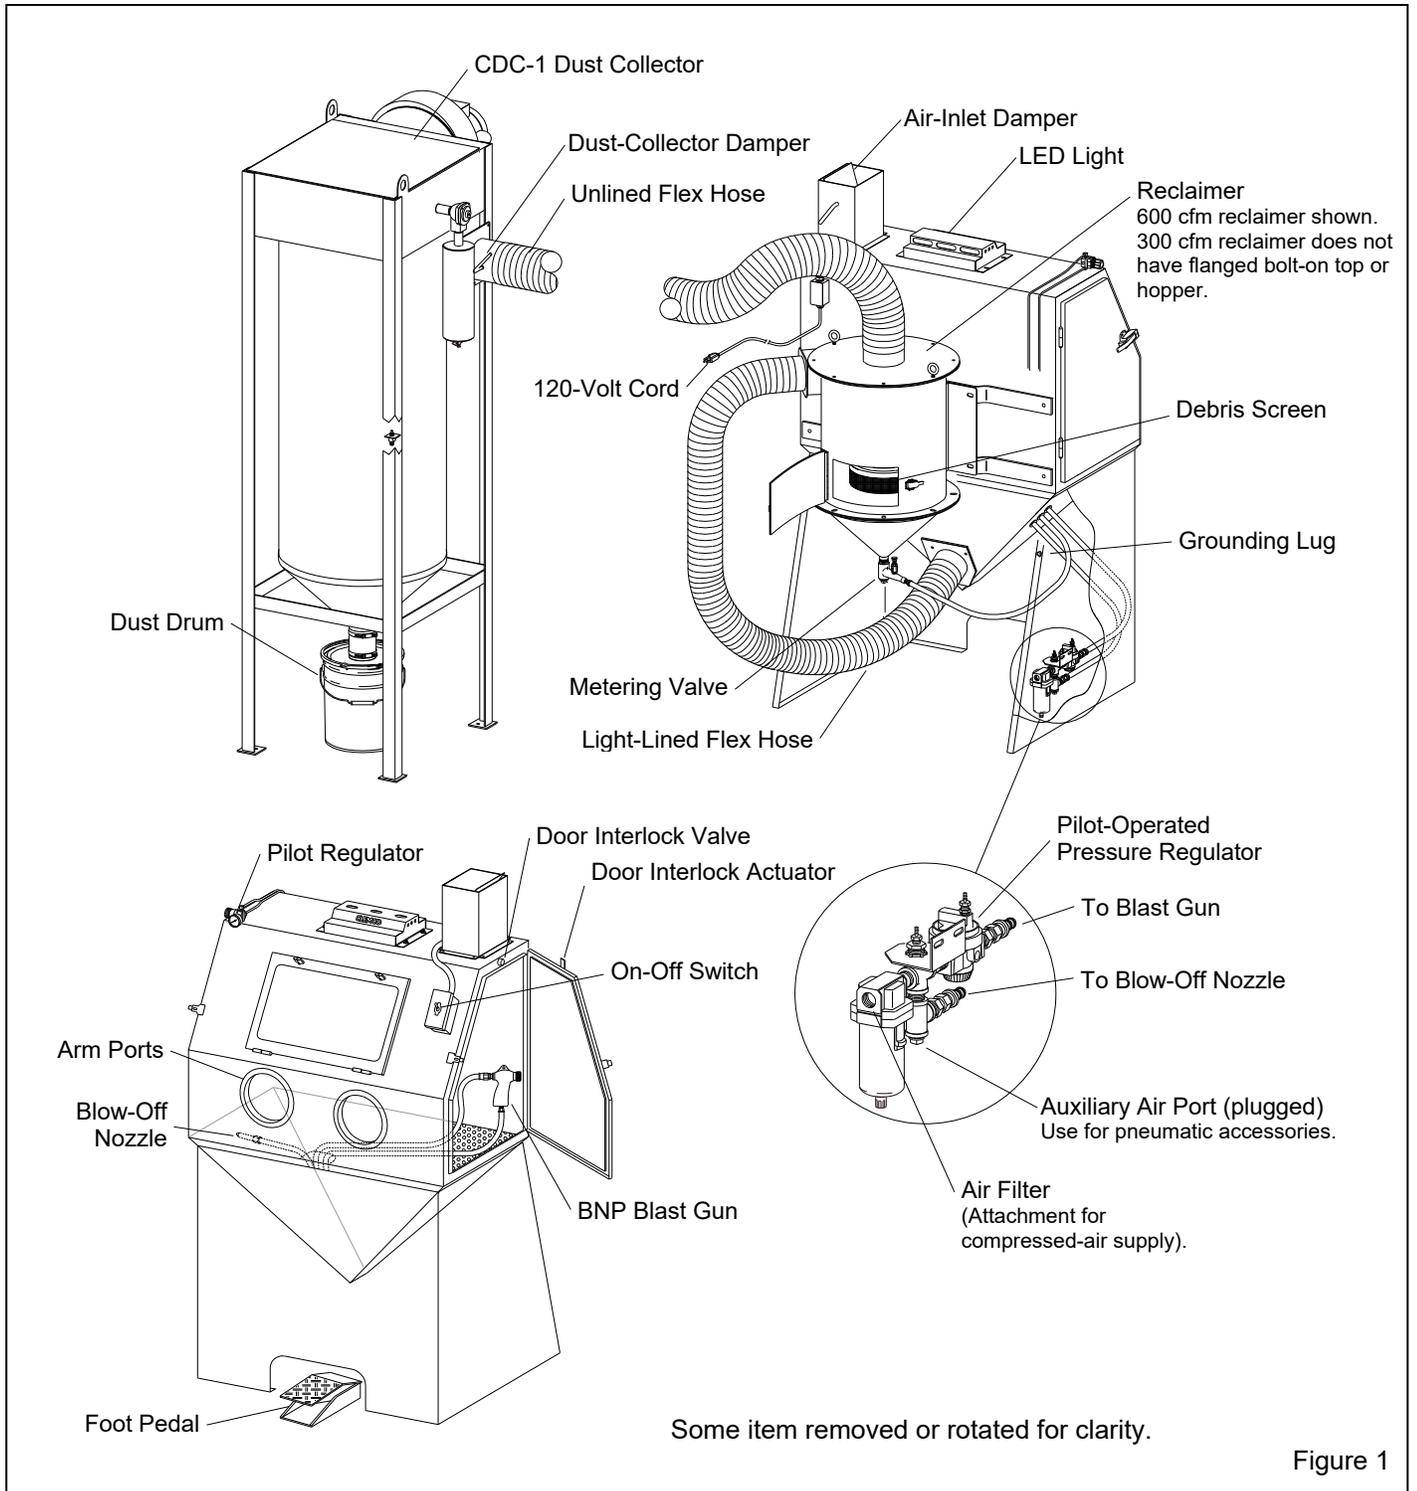

Figure 1
**1.6.1 CDC-1 Dust Collector:** Shown in Figure 1, the collector is available in 300 and 600 models. The single filter cartridge is cleaned by using a manually-controlled pulse of compressed air. Dust collects in a 5-gallon dust drum and must be frequently emptied. CDC-1 Dust Collectors are standard with BNP cabinets unless an optional RPC-2 Dust Collector is ordered at time of purchase. Refer to manual number 28225 for operation of the CDC-1 Dust Collector.
**2.1.1** Refer to Figure 1 (and Figure 2 for optional RPC-2 Dust Collector) for the general arrangement. Place all components in a convenient location where compressed air and electrical service are available. The cabinet location must comply with OSHA and local safety codes. Allow for full access to all doors and service areas, and for efficient handling of large parts. Provide enough clearance at the dust collector to do maintenance and to remove the dust container. Determine the best location for all components and position them before making compressed air connections, electrical connections, and attaching flex hose.